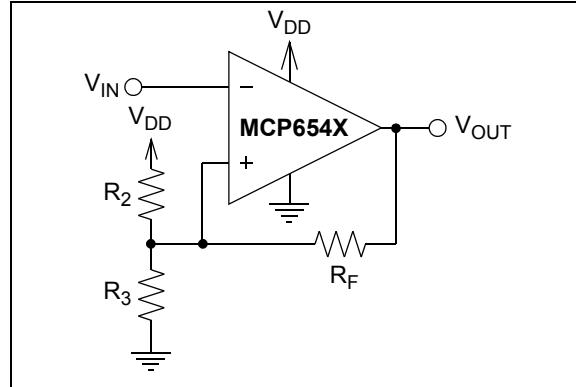
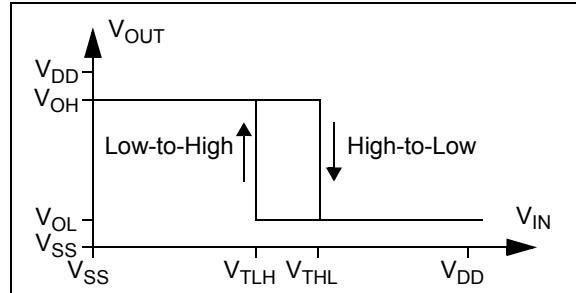
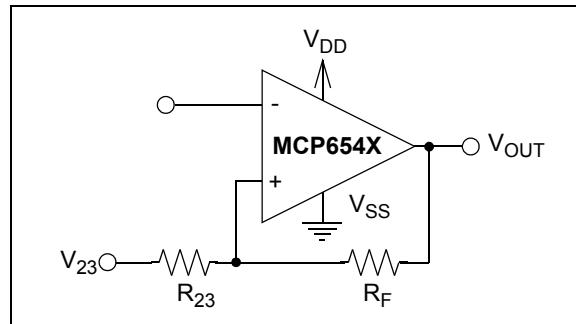

FIGURE 3-5: Inverting Circuit With Hysteresis.
FIGURE 3-6: Hysteresis Diagram for the Inverting Circuit.
FIGURE 3-7: Thevenin Equivalent Circuit.
Figure 3-5 shows an inverting circuit for single-supply using three resistors. The resulting hysteresis diagram is shown in Figure 3-6.
In order to determine the trip voltages (V_{TLH} and V_{THL}) for the circuit shown in Figure 3-5, R_2 and R_3 can be simplified to the Thevenin equivalent circuit with respect to V_{DD} , as shown in Figure 3-7.
1. Inverting Configuration (Figures 3-5 and 3-8):